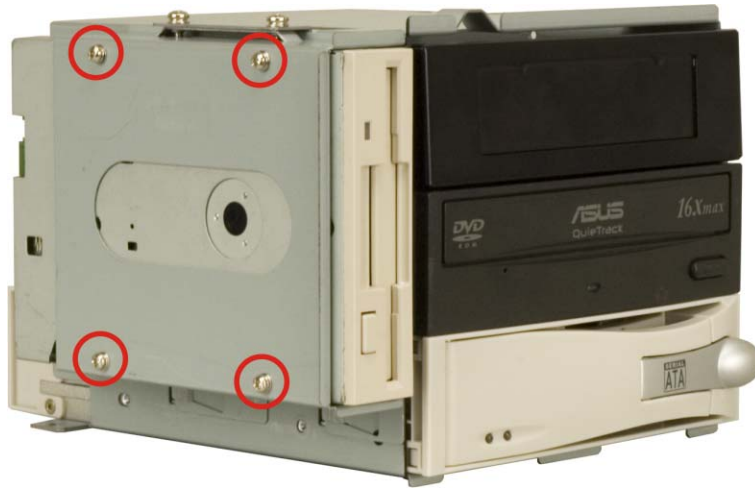

Figure 4-9: 3.5" Disk Drive Retention Screws
- Step 4:** Insert the appropriate number of retention screws into each side of the 3.5" disk drive through the 3.5" drive bracket (**Figure 4-9**).